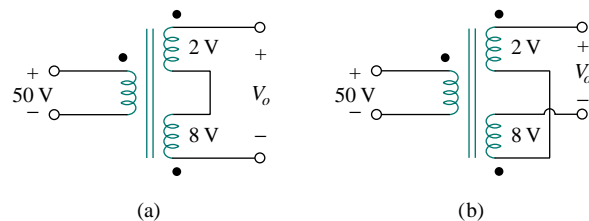

Figure 13.71 For Review Questions 13.7 and 13.8.
- 13.7** A three-winding transformer is connected as portrayed in Fig. 13.71(a). The value of the output voltage V_o is:
- 13.8** If the three-winding transformer is connected as in Fig. 13.71(b), the value of the output voltage V_o is: